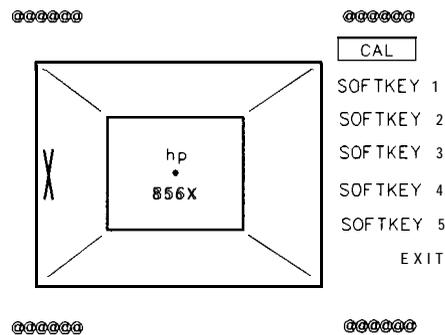

Figure 9-3. CRT Adjustment Pattern
2. Adjust the rear-panel TRACE ALIGN until the leftmost line of the test pattern is parallel with the CRT bezel. See Figure 9-3.